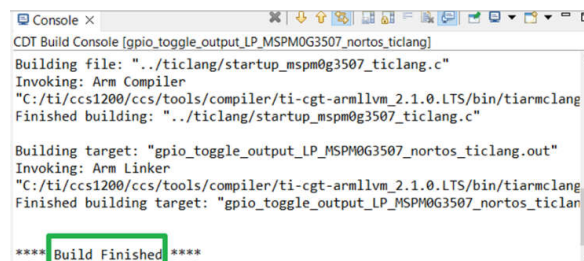

Figure 2-35. Successful Build
8. As you finish evaluating the software, click “build” icon in the main toolbar, as shown in Figure 2-35. The appearance of “Build Finished” shows your successful compilation.